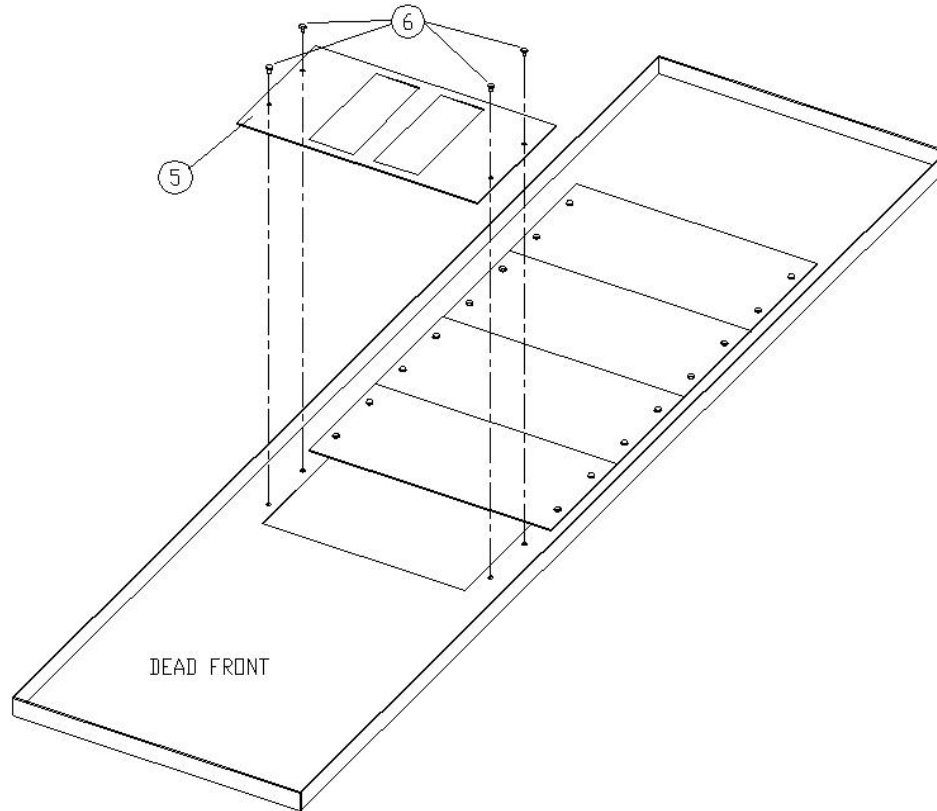

Figure 3. Attaching the shield insert to the shield for THQB breaker installation in A-Series® II Panelboards.
7. Place the filler plate [5] over the dead front so that the four same-size holes line up with the threaded holes of the dead front, as illustrated in Figure 3. Fasten filler plate to the dead front with four #10-32 x $\frac{3}{8}$ screws [6] tightened to 27-36 in-lb.